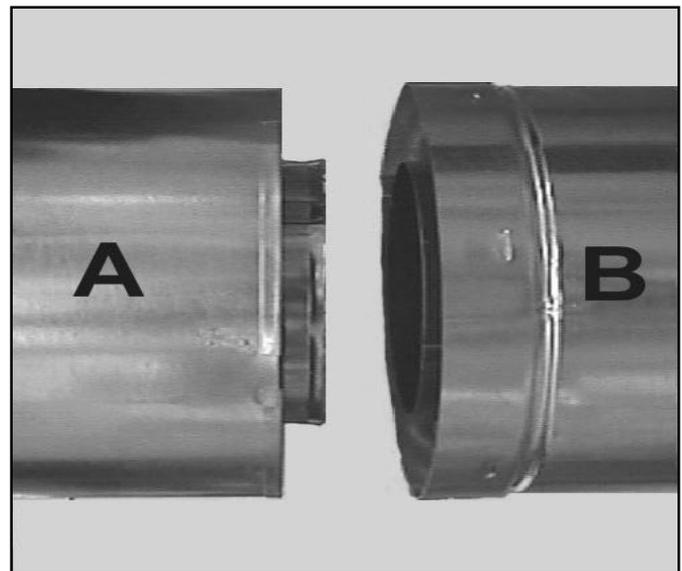

Figure 15. Outer Flue A and B
- Insert the outer flue of section "A" into the outer flue of section "B" (see Figure 15).